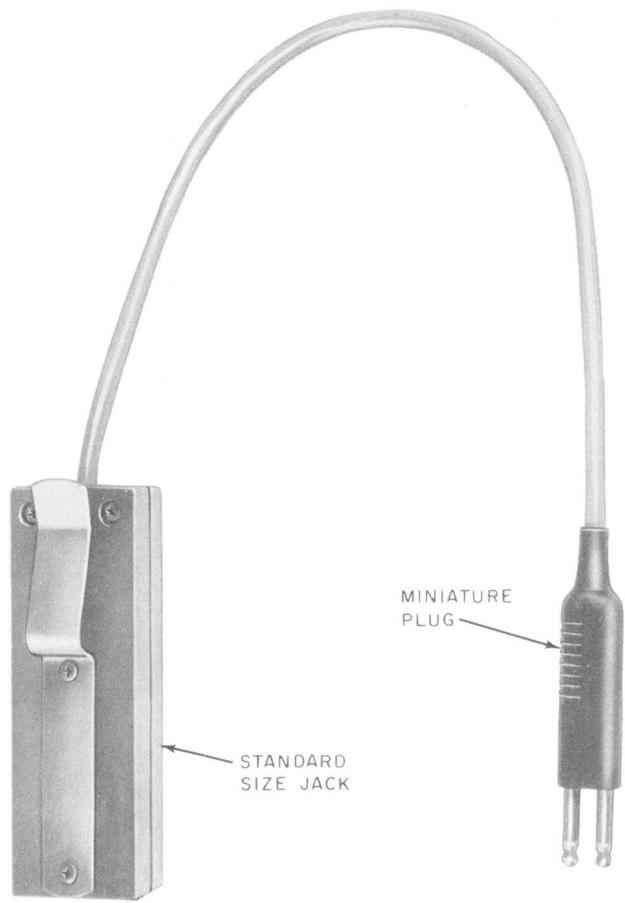

Fig. 11—KS—21386, L1 Miniature Plug Adapter
3.02 A KS-21386, L1 miniature plug adapter (Fig. 11) is available to utilize test cords which have a standard size end finish (464A plug) for use with miniature jacks. The W2FM, W4BR, and W4CL cords can all be adapted to function as W2HA, W4CP, and W4CR cords, respectively, by using the KS-21386, L1 adapter. The adapter also allows frame personnel to plug headsets that are equipped with the 464A plugs, into miniature jacks.